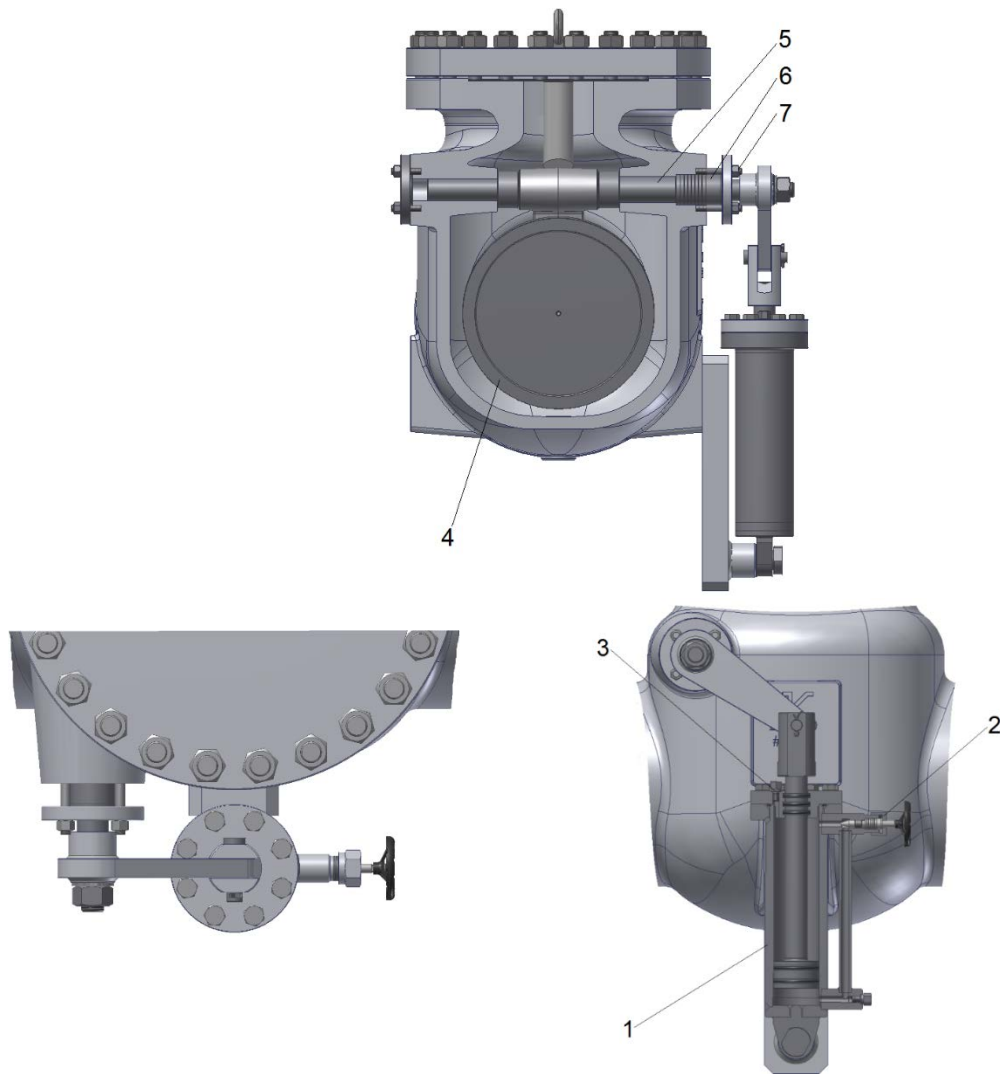

Fig. 4 Instructions for regulating the opening closing force
- On the dumper (Fig. 4) of the valve there is a hydraulic cylinder (Pos.1) that serves to regulate the opening and closing force, which serves the function of control of the pressure and flow of the fluid. There is a flow damping valve in the hydraulic cylinder (Pos. 2). By closing the valve, the flow of oil in the cylinder is dampened, which causes a slower closing-opening of the valve. Adjust the damping valve according to the valve operating conditions. On the cylinder there is a plug (Pos.3) through which the level of oil is checked and through which it can be added. The oil level is controlled every year. The Ø6 mm hole is provided on the piston, which serves as a safety element, in case of complete closing of the valve (Pos. 2), the valve closing position (Pos.4) is not blocked. In the case of leakage of the fluid from the pipeline through the shaft (Pos. 5), the seal (Pos.6) must be tightened through the screw plate (Pos.7).